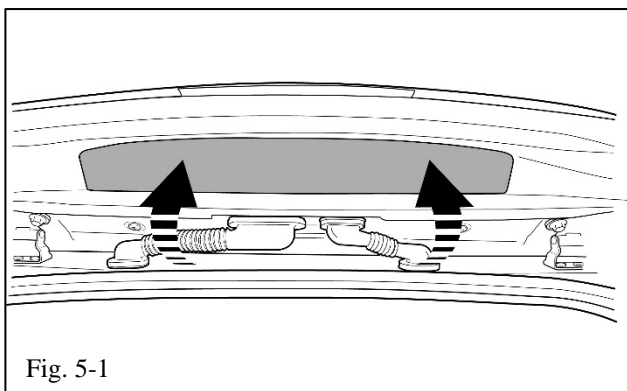

Fig. 5-1
- (c) Engage the 4 claws and 4 clips and reinstall the back door upper trim panel assembly (Fig. 5-1).